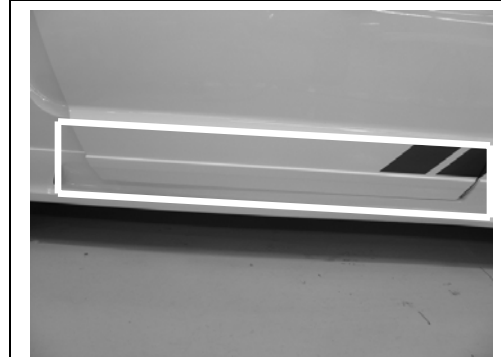

Figure 2
3. With the door open, place passenger side door cladding on the passenger door, aligning the bottom edge of the cladding with the bottom edge of the door, and the front and rear ends of the cladding with the front and rear ends of the door. (**Figures 2,3**).